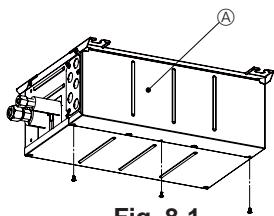
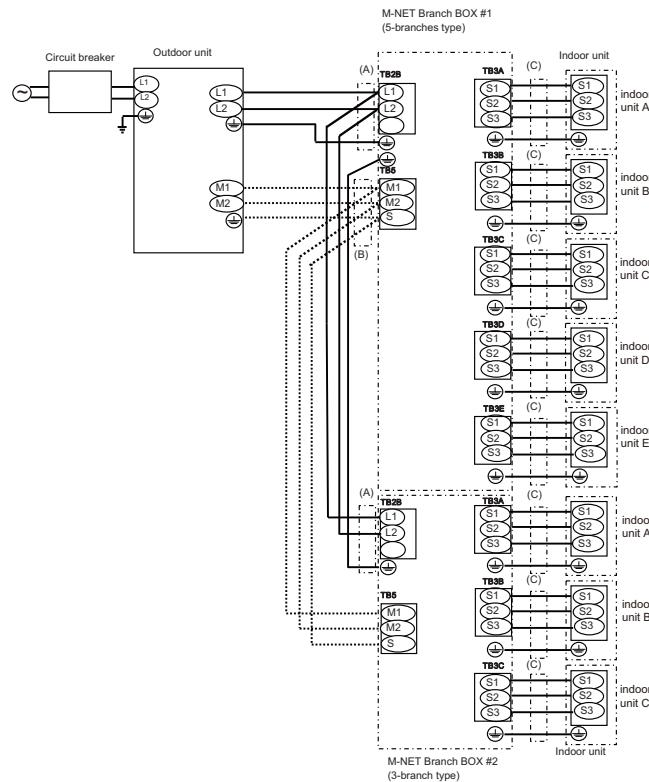

Fig. 8-1
Fig. 8-9
(1) Remove the electric cover. (Fig. 8-1)
(2) Remove the conduit cover.
(3) Pass the wiring into the branch box through the conduit plate and fix with the conduit plate. (Refer to 8.1)
(4) Firmly connect each wire to the appropriate terminal block. (Fig. 8-9)
(5) Set dip sw. (Refer to 8.3)
(6) Replace the electric cover.
8.2. External wiring procedure (Fig. 8-9)